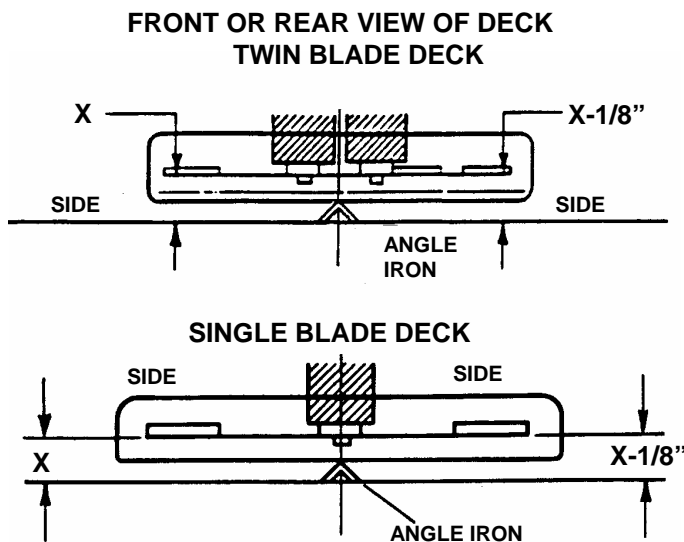

FIGURE 4.9
5. Measure the distance from blade tips to floor. If the measurement is within 1/8" from side-to-side, the deck levelness is satisfactory. If the difference from side-to-side is greater than 1/8", continue to the next page for adjustment. See Figure 4.9.